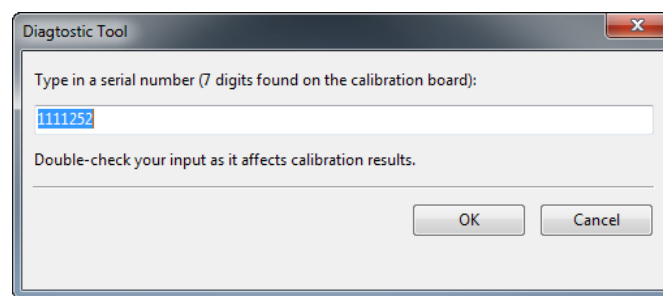
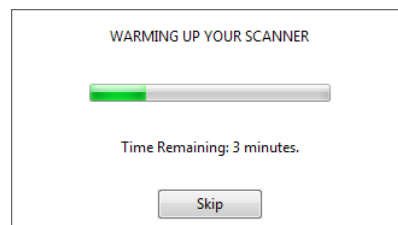

Figure 139: Entering serial number of calibration board.
Figure 140: Warming up the scanner.
6. Click *Start calibration*. A dialog box will open (see Figure 139); enter the serial number of your calibration rig (it appears on the board). If the scanner temperature is outside the optimal range—for example, you just connected the device to a power outlet—the tool will notify you of this condition (see Figure 140). We advise against clicking *Skip* and instead recommend waiting for the Artec Spider to reach its optimal temperature.